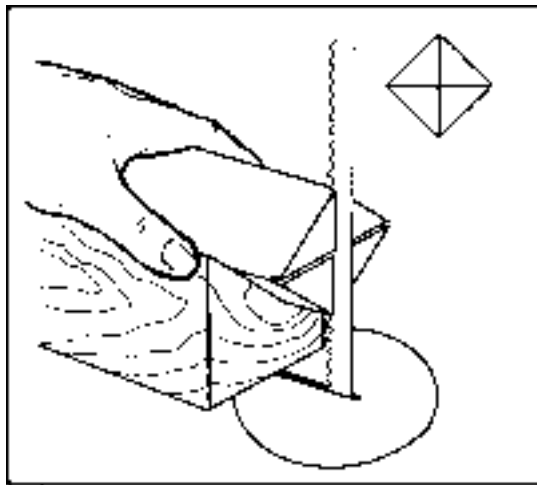
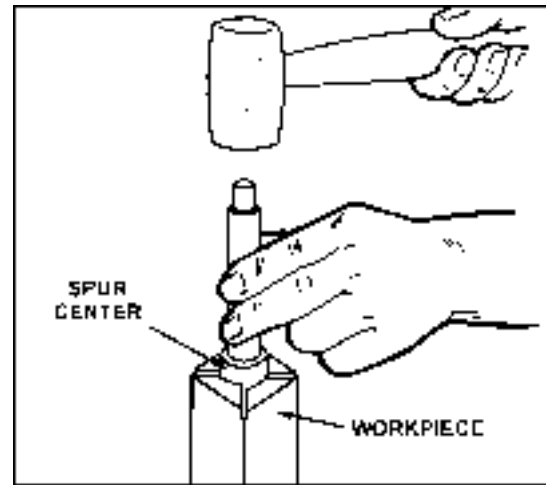

FIGURE 3
FIGURE 4
2. Extremely hard woods may require kerfs cut into the spur drive end of stock, Figure 3, or may need to have the spur center driven into the stock with a wood mallet or dead blow hammer, Figure 4. **NOTE: Never use a steel face hammer and never drive stock onto spur while it is mounted in the lathe spindle.**